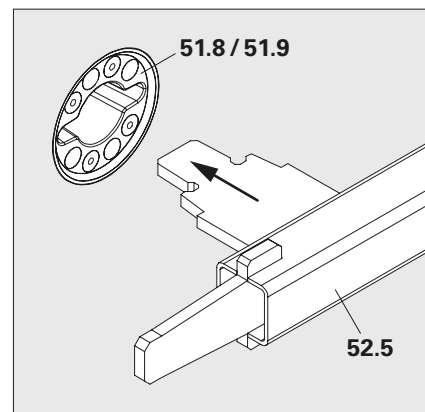

Fig. A1.02
2. Only in the case of magnet cones: Use the lug of the magnet cone spanner to remove concrete slurry promptly after deshuttering. (Fig. A1.02)